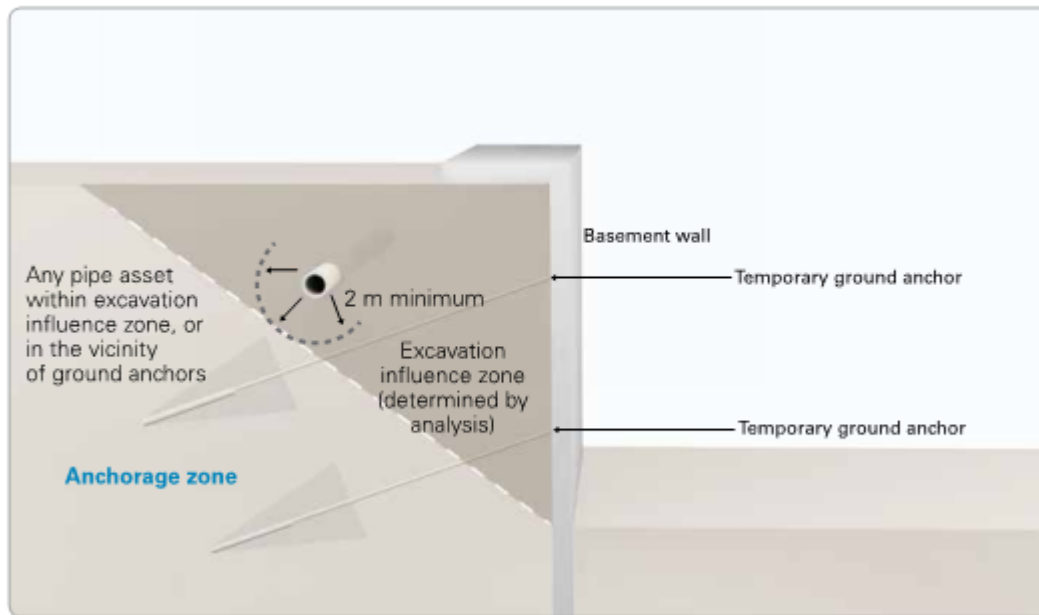

Figure 7-10 Diagram 20 of SWC BOA Pipe Assets
- The proposed sewer is located within the excavation zone of influence for the building as well as located in the vicinity of building ground anchors. However, a 2m clearance has been achieved as accordance with Figure 7-10. See section S9/S10 as shown in Appendix A.
- The existing water main is located within excavation zone of influence and is in the vicinity of ground anchors. A 2m clearance minimum is achieved throughout Appian Way in accordance with Figure 7-10. The existing watermain is protected on either side between two existing stormwater box culverts. See sections shown in Appendix A.